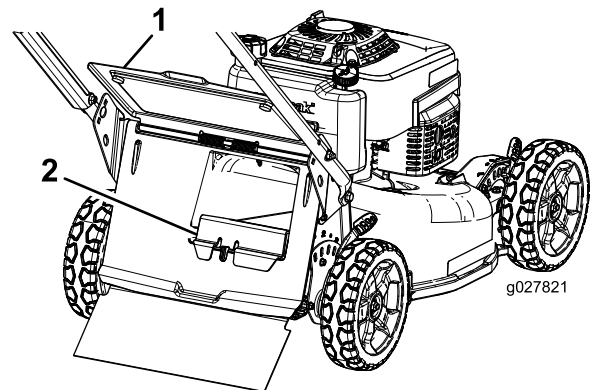

Figure 1
2. Raise and hold up the rear door (Figure 1).
Note: If the rear-discharge plug is installed in the opening, remove it (Figure 1).